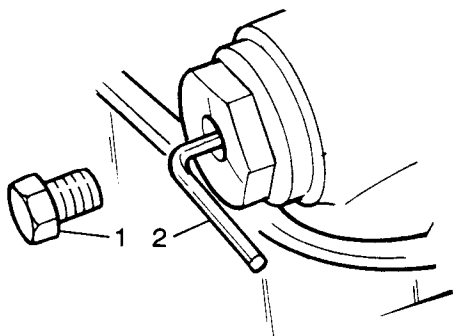
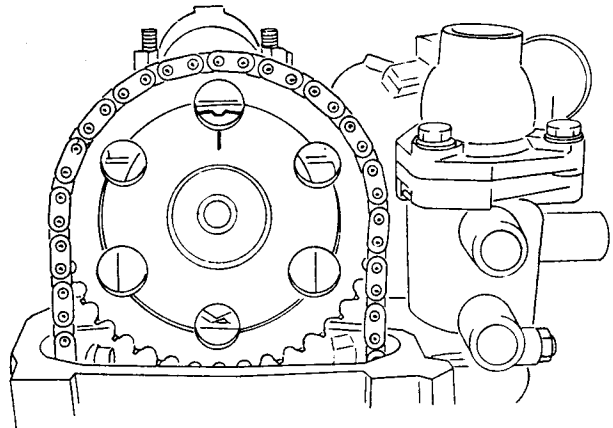

Fig B4.90
Fig B4.95
- (3) Refer to Fig B4.90. Retract the timing chain tensioner by removing the chain tensioner adaptor screw (1), fitting a 3,17 mm allen key (2) and turning the key 90° clockwise.
- (2) Refer to Fig B4.95. Align the timing marks on the camshaft sprocket and carrier.
- (3) Check that the crankshaft pulley mark is at the TDC position with No 1 cylinder firing.
- (4) Fit the chain over the sprocket, making sure that it is also over the bottom sprocket.
- (5) Release the timing chain tension by turning the allen key 90° counterclockwise. Remove the allen key and replace the adaptor screw (Fig B4.90).
- (6) Replace the camshaft cover (see Sub-section B4, Chapter 11).